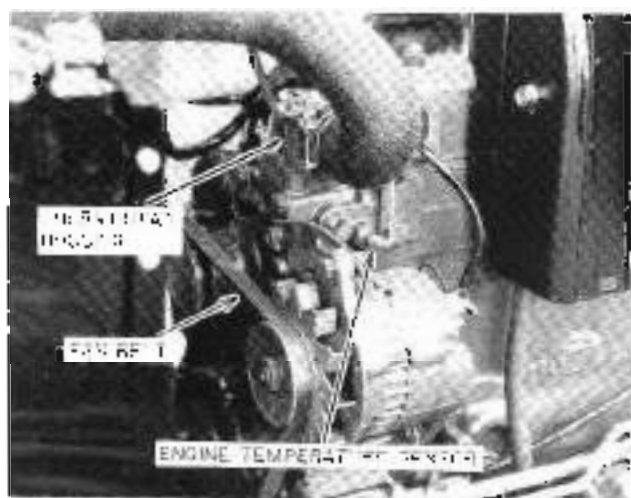

Figure 54 - Thermostat Housing
**Thermostat:** The thermostat is located in the coolant outlet connection in the front of the radiator (Figure 54).